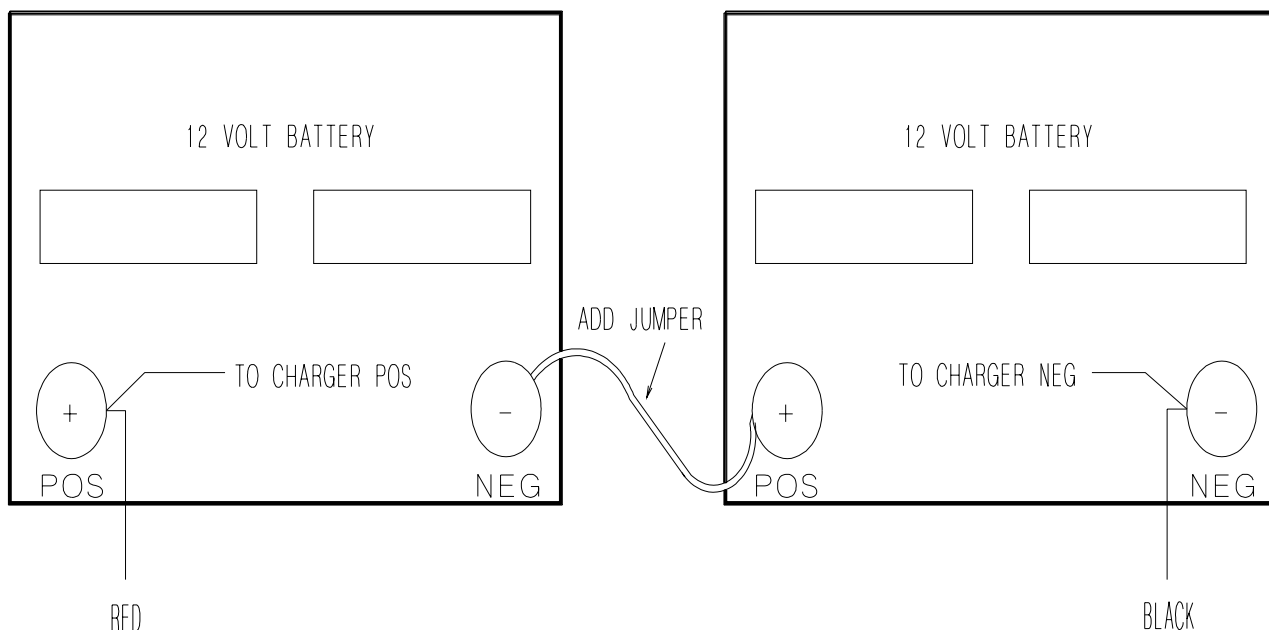

Figure 28
- 5) Use Figure 28 to guide installation.